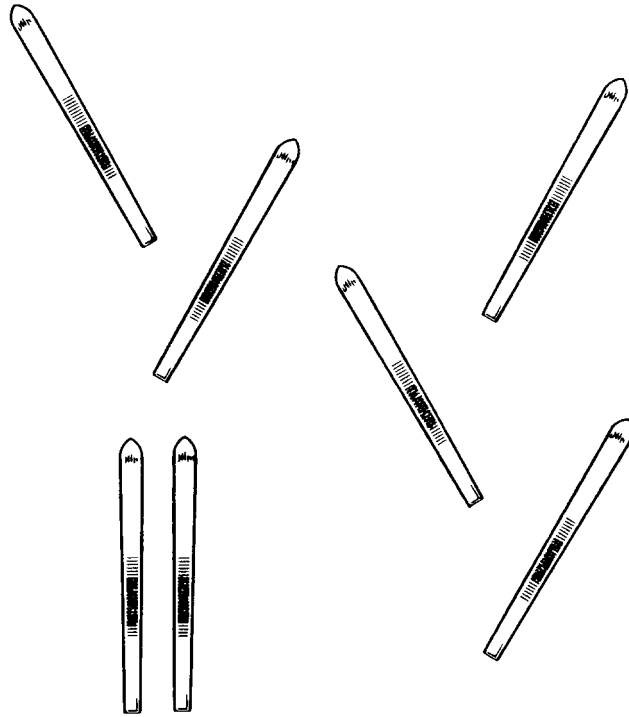

Figure 5-12 Herringbone
- a. Used to climb short, moderate or steep slopes. It is quicker than the sidestep, but more tiring. It is difficult to use in confined areas (see Figure 5-12).